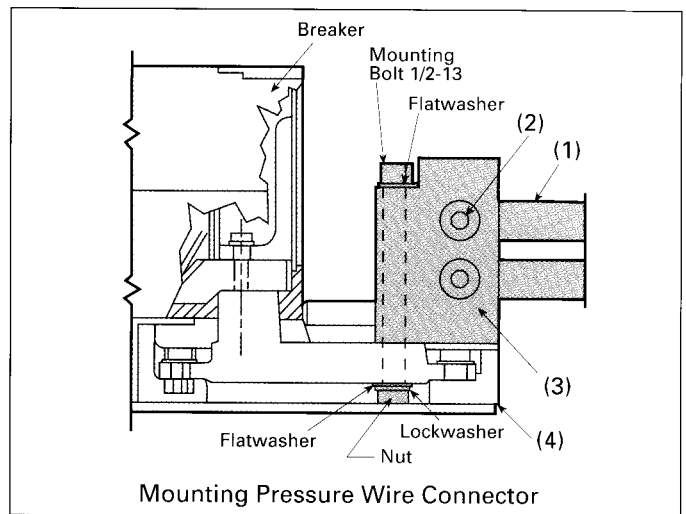

Figure 1
- C. Attach power cables (1) to wire connectors (3) and tighten the cable set screws (2) as shown in Figure 1. Use Table 1 for the torque value of the cable set screws.
- D. Mount pressure wire connectors (3) to connect-all mounting block assembly (4), either front or rear position, with 6" x 1/2-13 hex head mounting bolts, associated nuts, flat-washers and lockwashers provided (Figure 1). Tighten to a torque value indicated in Table 1.